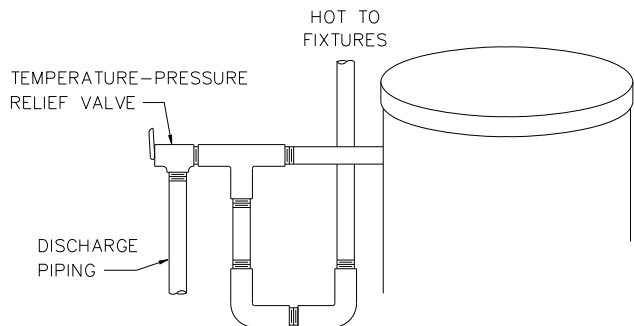

Figure 3: Hot Water Outlet
- b. **Standard Domestic Hot Water Out.** Install brass tee and temperature and pressure relief valve. Do not place any valves between the temperature and pressure relief valve and the tank. See Figure 3.